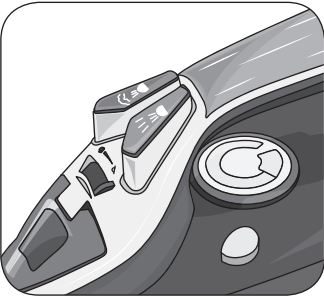

Fig. 2
Set the steam control knob (C) onto "☂" (Fig. 2).